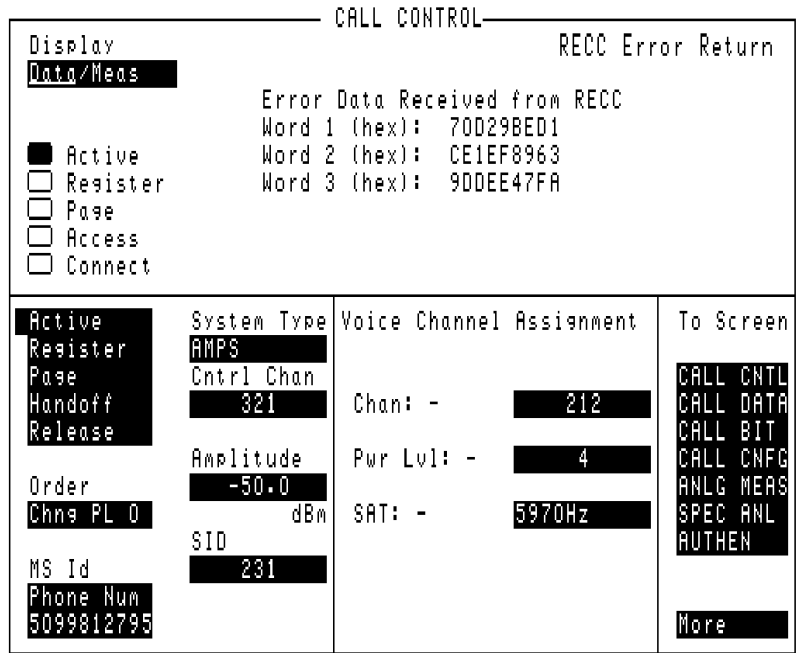

Figure 19 CALL CONTROL Screen with Decoding Error Message Display
- Select **Data** to display information received from the mobile station on the reverse control channel or reverse voice channel. If the data message(s) received from the mobile station can be correctly decoded, the decoded message contents are displayed. If the data messages cannot be correctly decoded, the raw data message bits are displayed in hexadecimal format. **Figure 19 on page 130** shows the layout of the CALL CONTROL screen when a decoding error has occurred.